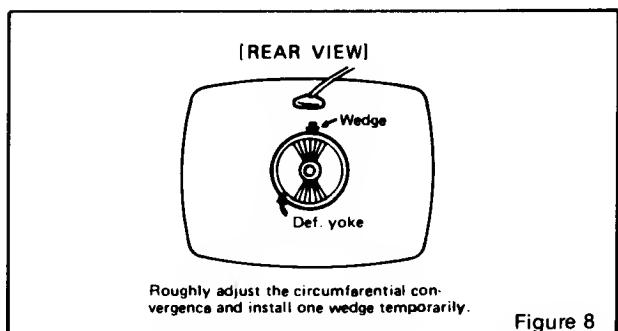

Figure 8
2.3 Adjust convergence around the edges of the picture tube by tilting the yoke up-down and left-right, and temporarily install one wedge at the top of the yoke or in a more optimum position. (Figures 8, 9, 10)
When the Pole opens to the left and right 30° symmetrically, the magnetic field is maximized. Red and blue beams both move to the left and right (See Fig. 8-c and 8-d).